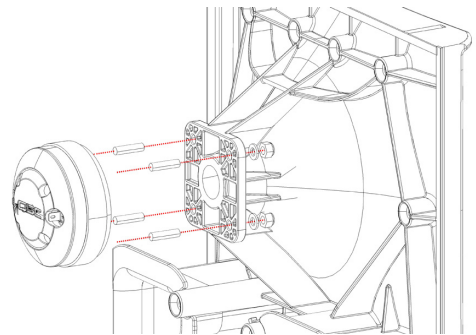

Figure 5.4.2 - K12.2 HF transducer only
2. Remove the 4 screws, 4 lock washers, and 4 normal washers that secure the HF transducer to the baffle. See Figure 5.4.2.